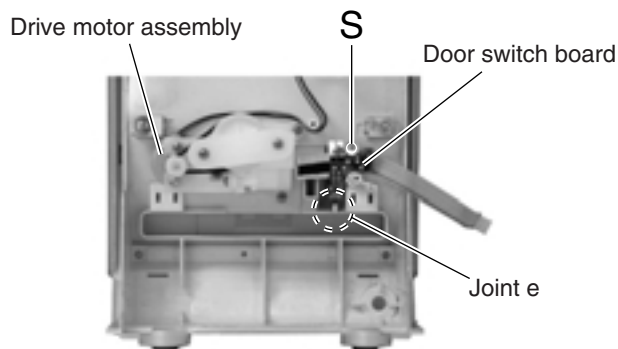

Fig.27
■ Removing the door switch board (See Fig.27 and 28)